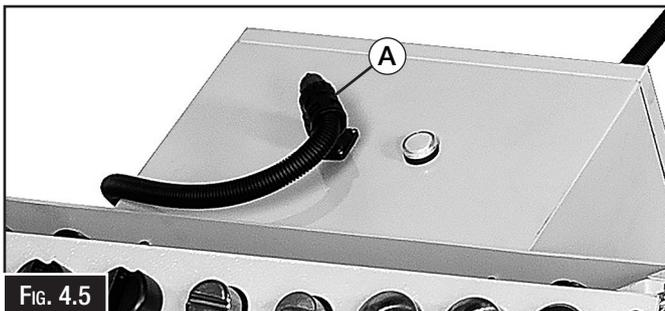

FIG. 4.5
Connect the pinned connector (A) to the power pack. (Fig. 4.5)